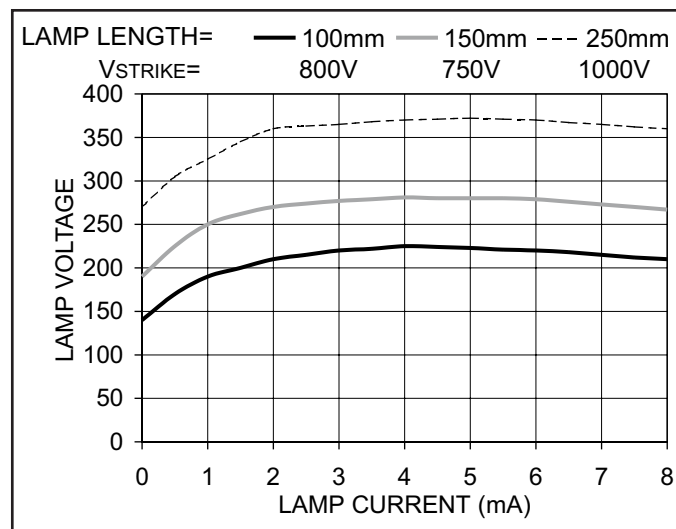
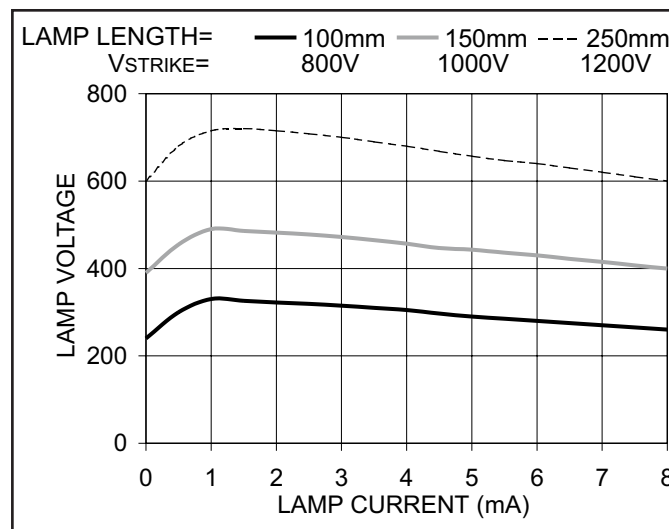

Figure 11. 6mm lamp characteristics (20°C).
Figure 12. 3mm lamp characteristics (20°C).
Before beginning a CCFL converter design, it is important to become familiar with the characteristics of the lamp. The lamp presents a non-linear load to the converter resulting in unique voltage vs. current (VI) characteristics. The length, diameter, and physical construction of the lamp determine its performance, and thus impact the design of the converter. Fig. 11 shows the VI characteristics collected from various lengths of 6mm diameter lamps, where Fig. 12 shows the characteristics of several 3mm-diameter lamps.